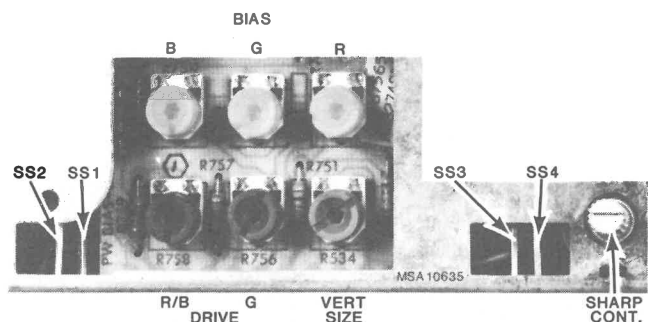
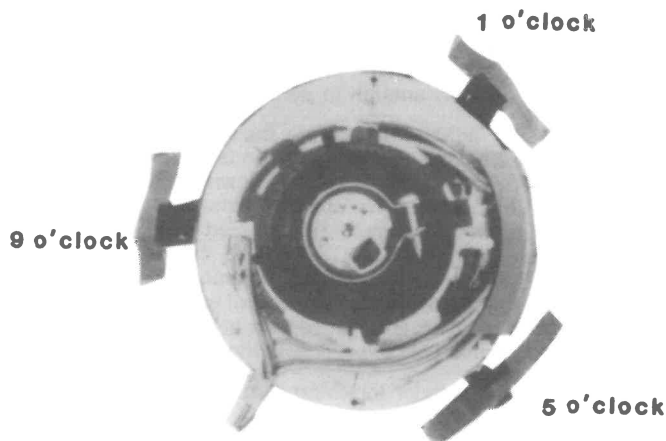

Fig. 8—Color Temperature Adjustments
Fig. 10—Edge Convergence—Yoke Cushion (Wedge Placement)
3. See Fig. 10, purity magnets are the front pair of magnets closest to the yoke. Starting with the tabs together pointing straight up (12 o'clock) or straight down (6 o'clock), spread the tabs an equal distance apart from the vertical center line until the green vertical raster is centered horizontally on the screen as in Fig. 8. **DO NOT ROTATE** the pair of magnets (together) **CW** or **CCW** away from vertical center. Rotating together will only decrease the effect of the two pole magnets on the desired horizontal movement of the green beam and will introduce vertical offset (centering) to the raster.
Note: If center dot convergence cannot be obtained in steps 3 and 4, move the corrector ring (Figure 10) 90 degrees from its present position. This introduces enough shift in the beams to obtain center dot convergence by repeating steps 3 and 4.
Dynamic Edge Convergence (Fig. 10)